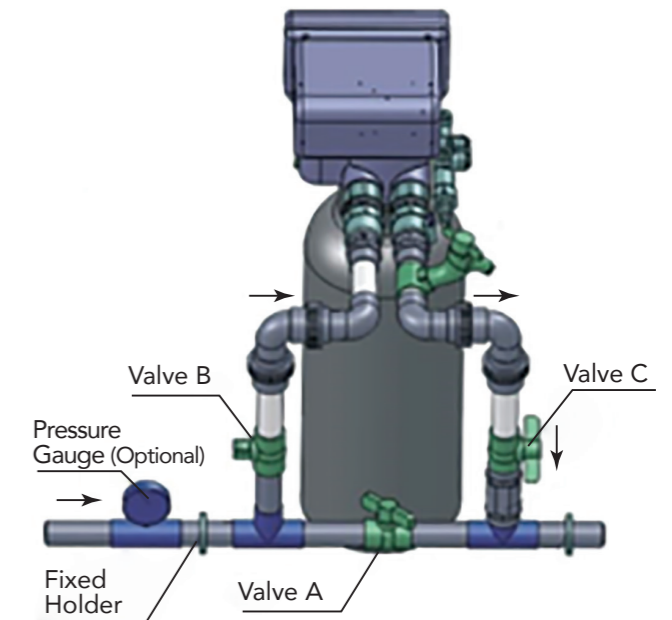

Figure 2 - Pipe Layout
11. Connect pipelines as shown in Figure 2.